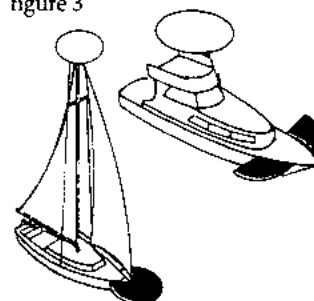

figure 4
*Sailboat using sail alone, less than 7 meters in length: If impractical to display lights in figure 4, 5 or 6, a single white light may be displayed in time to prevent a collision (figure 7c).*
*Sailboat using sails alone: The lighting arrangements in figure 4, 5 or 6 may be used.*